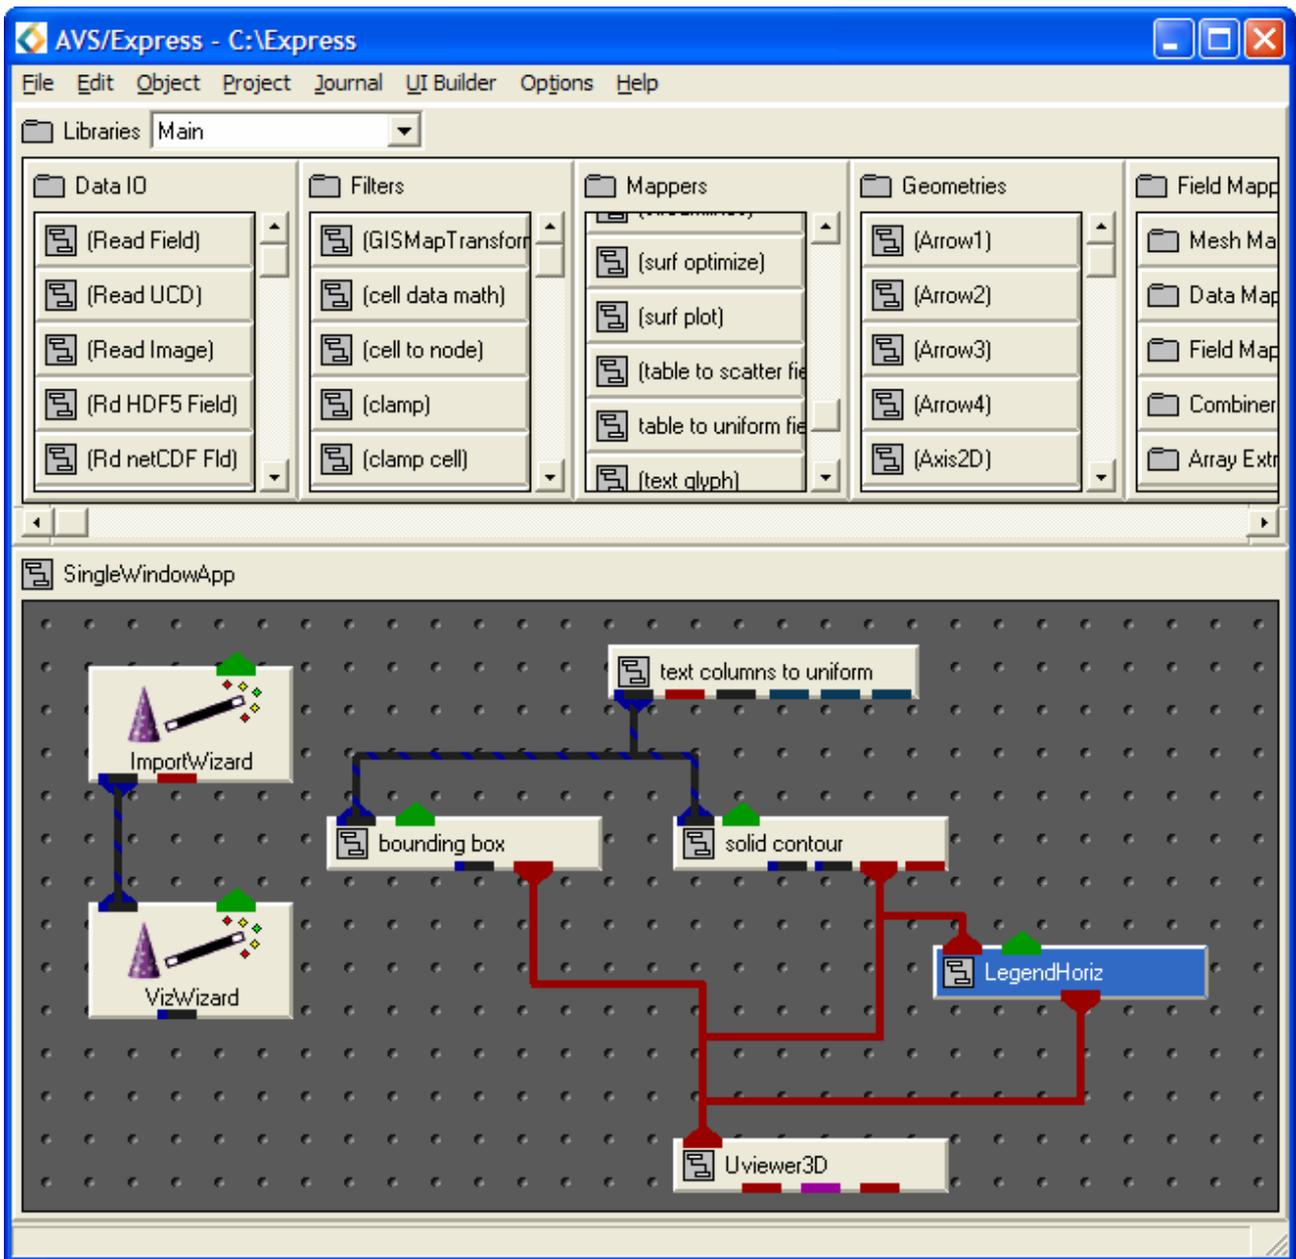

Figure C.43: Network Created by vizWizard
- In the Network Editor delete the connection that is directly between `text_columns_to_uniform` and `Uviewer3D`, so that it appears similar to that shown in Figure C.43.